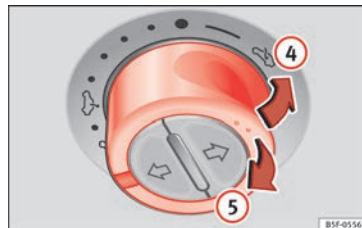

Fig. 12 On the interior roof lining: press the button and pull on it to raise and lower the sunroof.
»» Fig. 12 ④. For an intermediate position, hold down the switch until you reach the desired position.
»» Fig. 12 ⑤. For an intermediate position, hold down the switch until you reach the desired position.